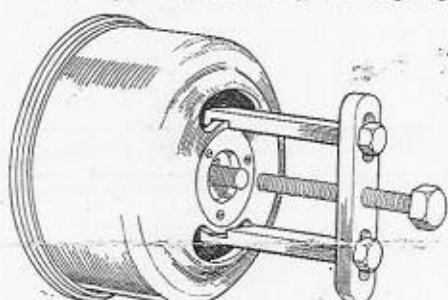

Fig. 8: TOOL FOR REMOVING IGNITION FLYWHEEL: The legs pass through slots in the wheel.
**Removal of flywheel magneto.** Remove centre-nut and lock-washer. Using tool 61-1735 (or two-jaw extractor), pull off flywheel and remove flywheel keys (see Fig. 8). Flywheel will not demagnetise if left without keepers. Remove 2 screws from slots and remove stator plate.